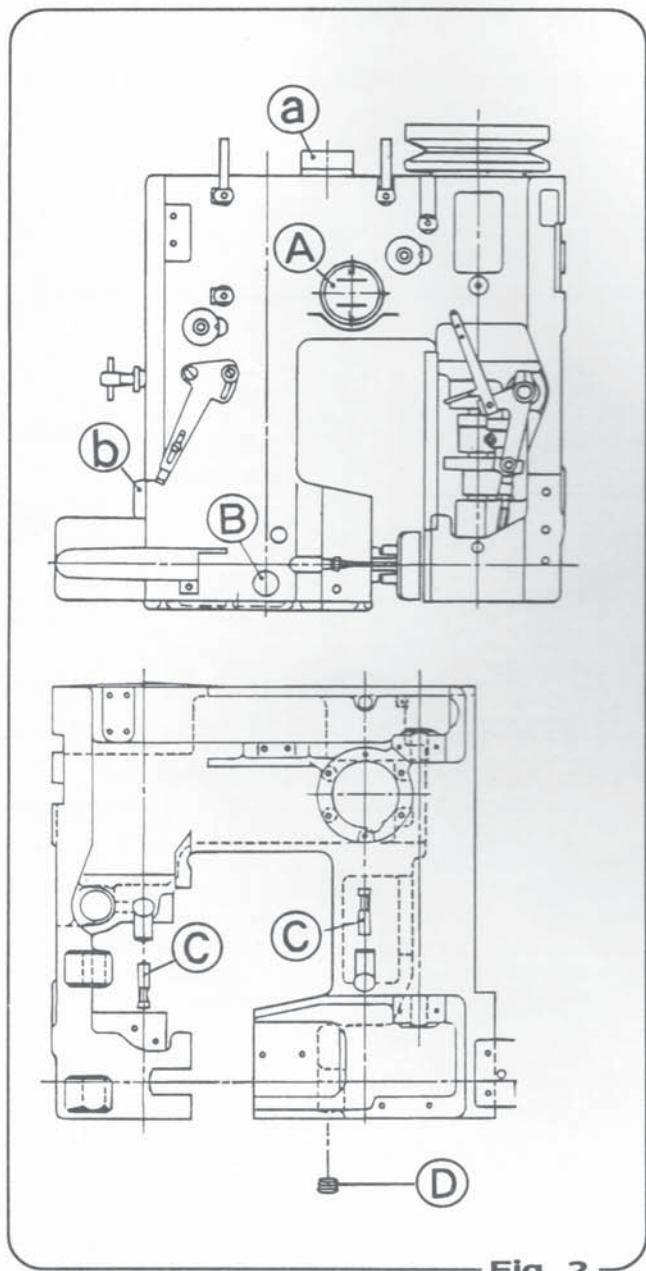

Fig. 2
Approximately 1,600cc should be used. (Fig.2)
- b) Remove cover **B** and fill with oil so that level reaches the 'red point' indicator **B**. Approximately 140 cc should be used. (Fig.2)
As indicated (Fig.2) oil is drained from the machine by rotating and un-plugging. **C**,**D**.
- a) 往**A**注油口儿加油, 请拧开注油盖**a**后, 加油直到油上面到“H”水准标记为止。注油量约 1,600cc (图2)
- b) 往**B**注油口儿加油, 请拧开注油盖**B**后, 加油直到油上面到红色圈为止。注油量约 140cc(图 2)